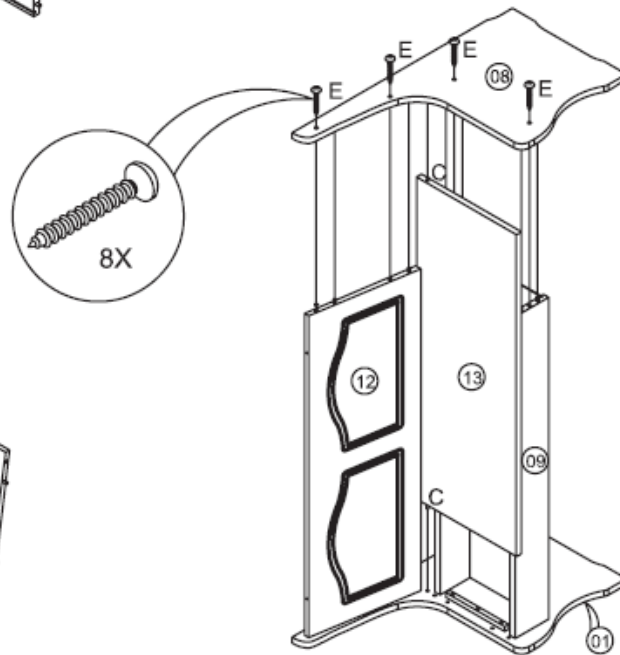

FIGURE 3.4
- Use Screw (E) to fasten (12) to (1). With assistance position the assembly vertically to sit (1) as shown in Figure 3.4.
- Fit Double Bench Seat Cover (13) between (9 & 12) and insert Plastic Pin (C) on (13) into designated hole on (1).
- Attach Right Outside Leg (8) to (9, 11, 12, & 13) via wood dowels on (9 & 12). Check that Pin (C) on (13) fits into the designated hole on (8), and (11) sits on wood dowel on (8).
- Use Screw (E) to fasten (8) to (12 & 9).